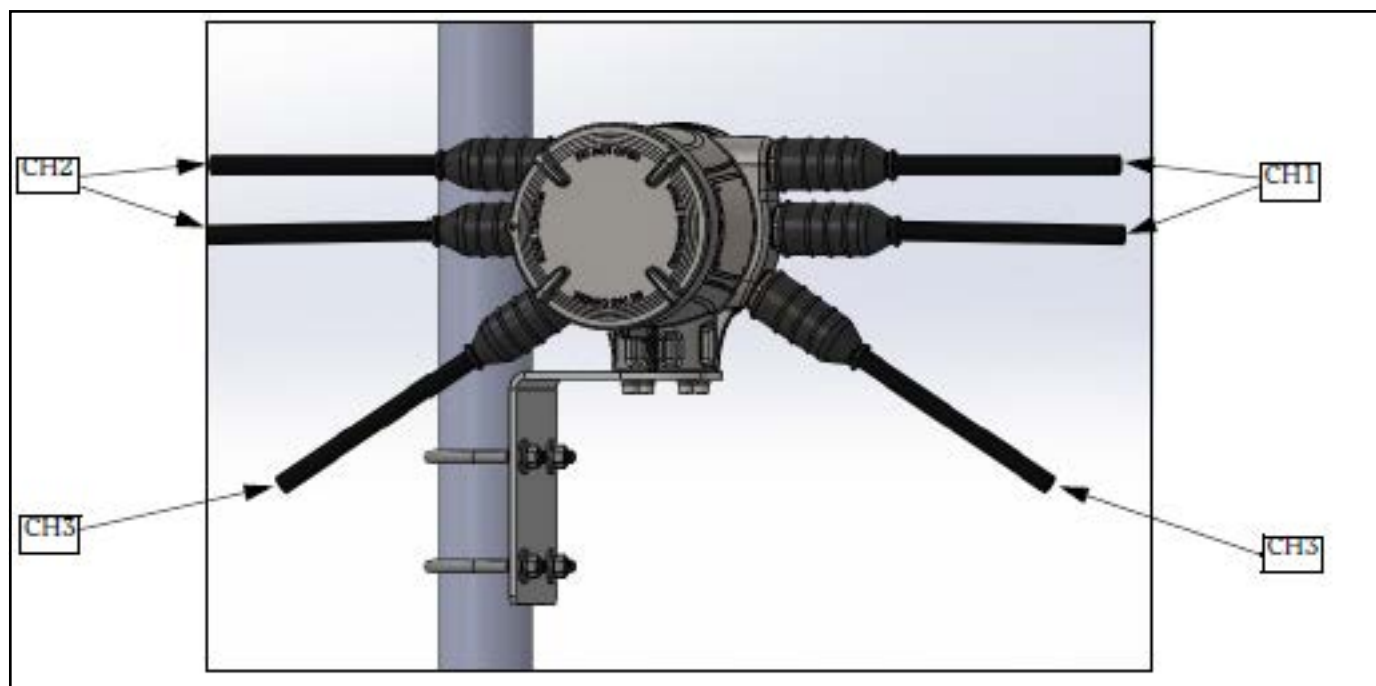

Figure 30: XMT1000, 3 Channel Junction Box
2. Thread one end of transducer cables into 3 channel junction box as shown in *Figure 30*. (Cable locations in *Figure 30* are for reference only. Transducer cables can be placed in any orientation)